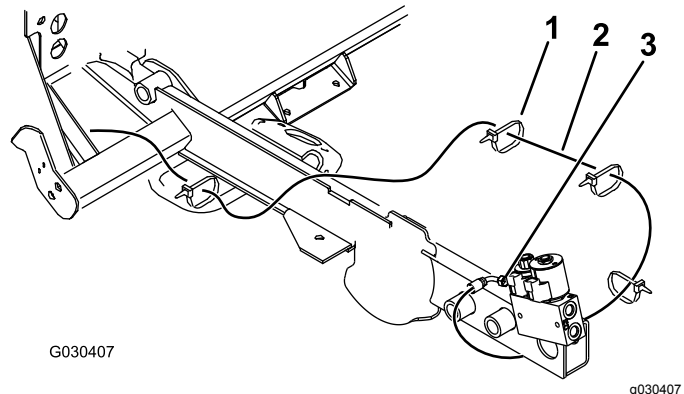

Figure 20
8. Route the long hose under the radiator frame, over the frame cross member, and along the frame rail to the valve (Figure 20).
9. Secure the long hose with 4 cable ties (Figure 20).